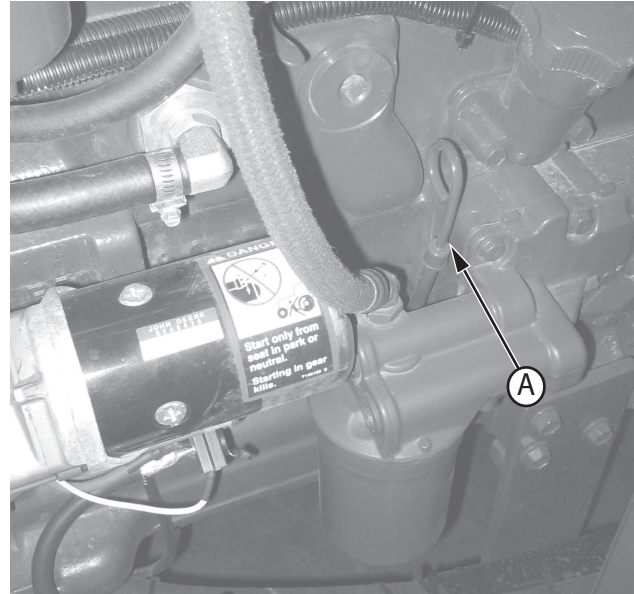

Figure 51. Engine Oil Dip Stick
4. Check engine oil level (see Figure 51 on page 44) with dipstick (A) more frequently during engine break-in period. If oil must be added during this period, Break-In Oil part number 907811 is preferred. (See ENGINE BREAK-IN OIL in Fuel, Coolant, and Lubricants section of Engine Manufacturer's Operator's Manual.)